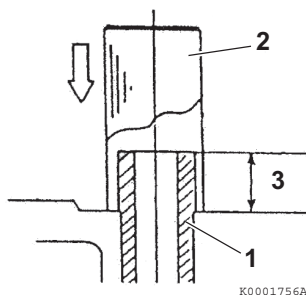

Figure 6-28
3. Finish installing the valve guides (**Figure 6-28, (1)**) into the cylinder head to the proper height (**Figure 6-28, (3)**) using the valve guide installation tool (**Figure 6-28, (2)**). See *Valve Guide Projection specification starting on page 6-5*.